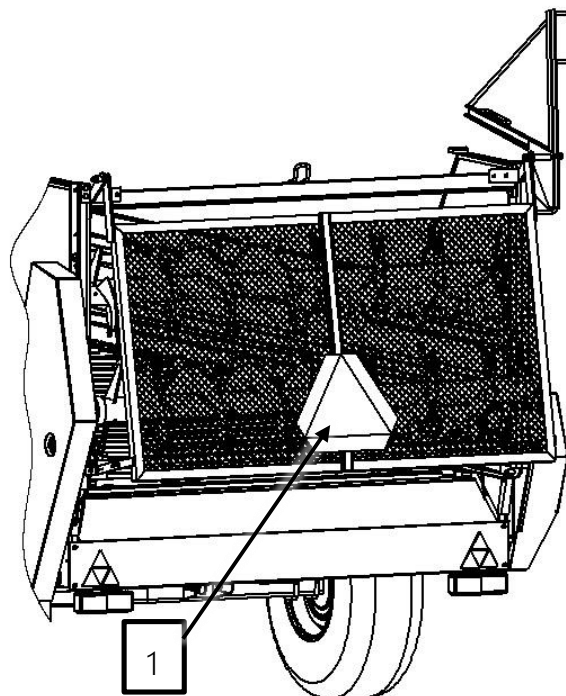

Figure 2. The location of the placement of the plate distinguishing slow-moving vehicles.
- When driving on public roads, mount the triangular plate distinguishing slow-moving vehicles (item 1, fig. 2). The triangle is to be fastened to the holder on the guard of the drums.